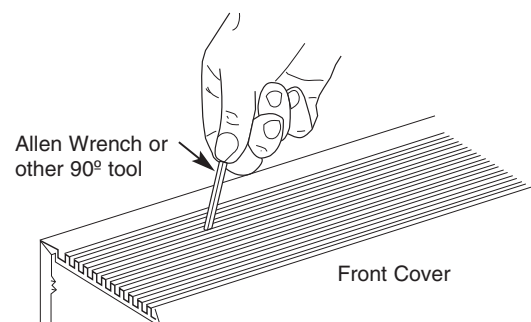

Fig. 6
2. To clean interior of heater will require the removal of the front cover. To remove the front cover, disengage the top rear snap-lock first. Use an "L" shaped tool, such as an Allen Wrench, to lift up under the webs between the back row of slots (See Fig. 6). Start at either end and lift up on the front cover until the tension in the cover pulls the cabinet apart.